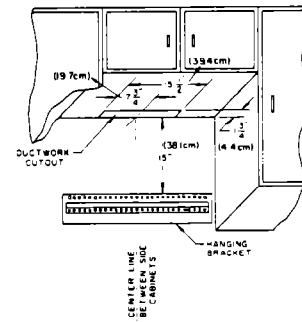

Figure 8
11. The hole in the bottom of the cabinet (for the duct provided with the hood) should be cut as shown in Figure 8 (15 1/2" long by 1 3/4" deep). Hole must be cut to back wall. Make sure to center the hole within the 30" allotted space.